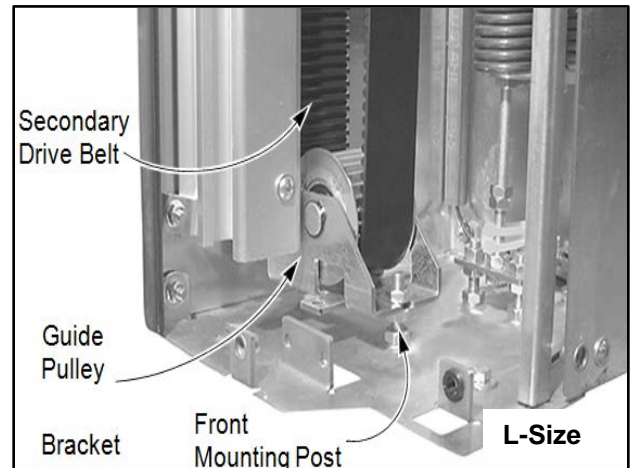

Figure 56
6. Tension is released and the guide pulley at the bottom of the side column can be removed. Remove the nut from the front mounting post and loosen the rear nut to remove the guide pulley. (See Figure 56.)